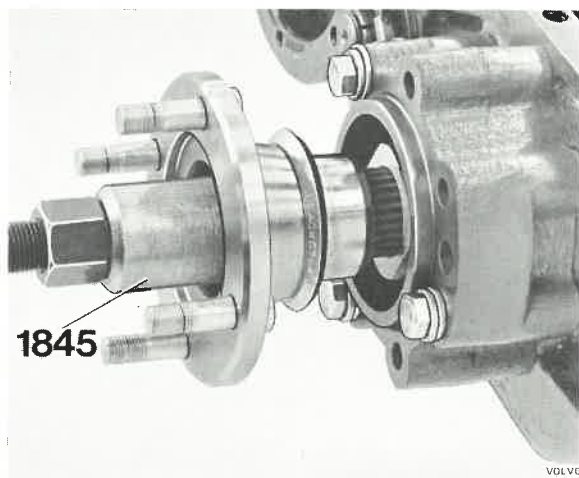

Fig. 43-200. Pressing on flange
13. Fit the speedometer pinion with the tapered part facing the rear bearing, Fig. 43-198. Fit a new seal on the flange, Fig. 43-199. Pull on the flange with 1845, Fig. 43-200. Coat the sealing lip with grease. Remove the press tool and tighten up the nut. Tighten the nut to a torque of 100–120 Nm (10–12 kpm = 72–87 lbftf).